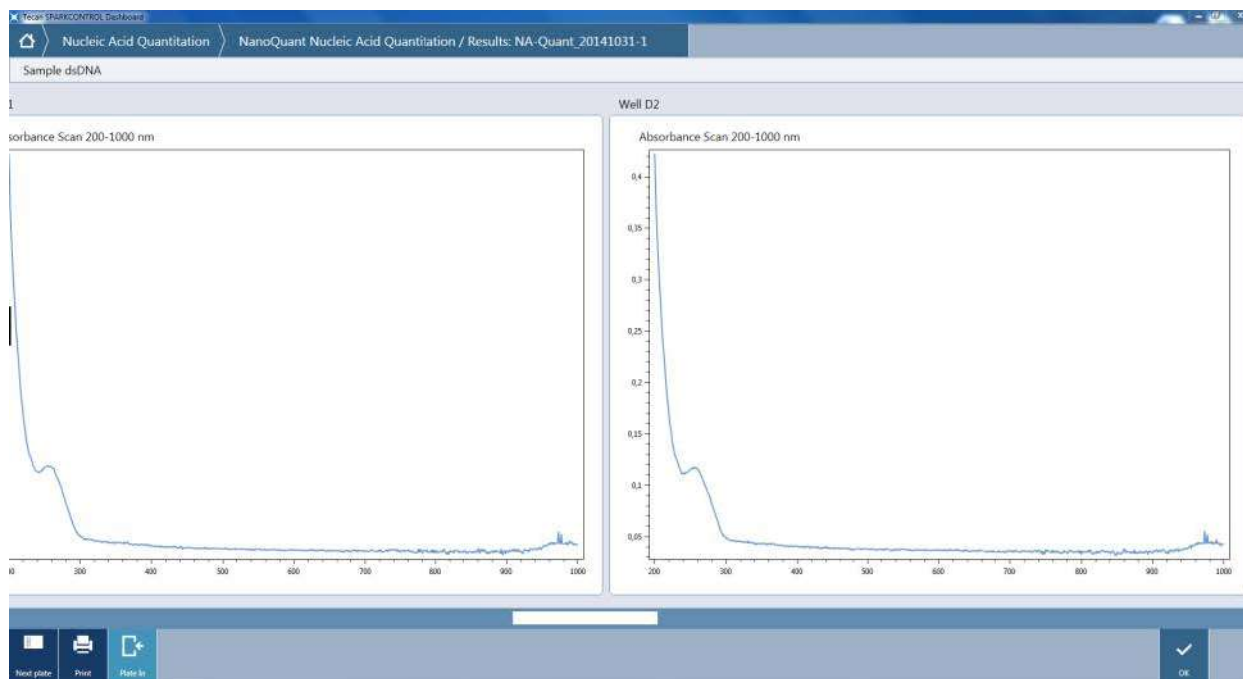

Figure 99: Absorbance scans in the Result window
- Absorbance Scan values from 200 – 1000 nm (in 1nm steps). Use the slider to obtain all of the absorbance scans being measured (Figure 99: Absorbance scans in the Result window).